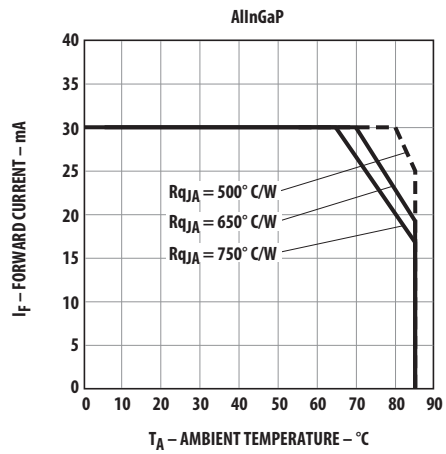

Figure 4. Maximum forward DC current vs. ambient temperature.
1. See Figure 4 for maximum current derating vs. ambient temperature.